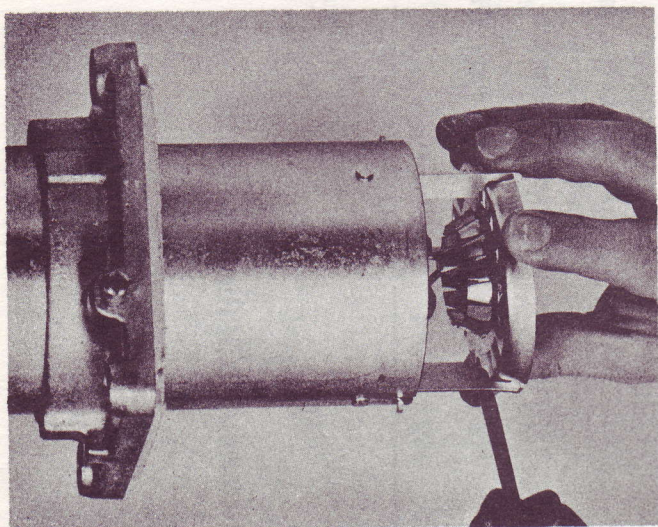

Fig. 4A
- 6.4 Flame retention cup can be removed from the bracket using a screwdriver as shown in the Fig. 4A.